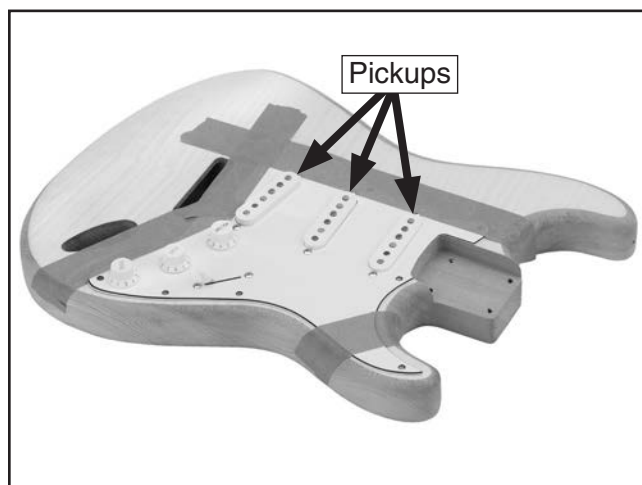

Figure 16. Pick guard placement.
- Place the pick guard on the guitar body as shown in **Figure 16**, and temporarily secure the pick guard to the body with masking tape. The pickups should fit into the routed channels.